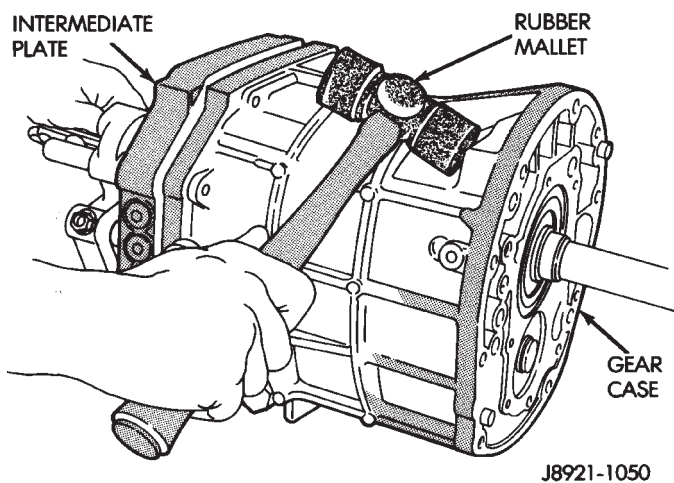

Fig. 34 Separate Intermediate Plate and Transmission Case
(23) Separate intermediate plate and transfer case by tapping them loose with plastic mallet (Fig. 34).